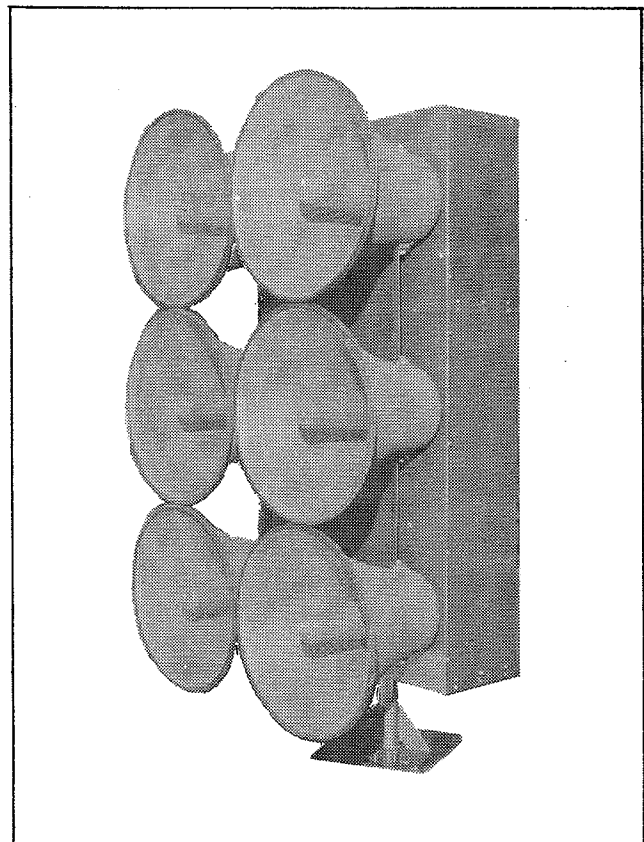

Figure 1-3. Model EOWS*612 Speaker Array.
2. Model EOWS*612 (figure 1-3).